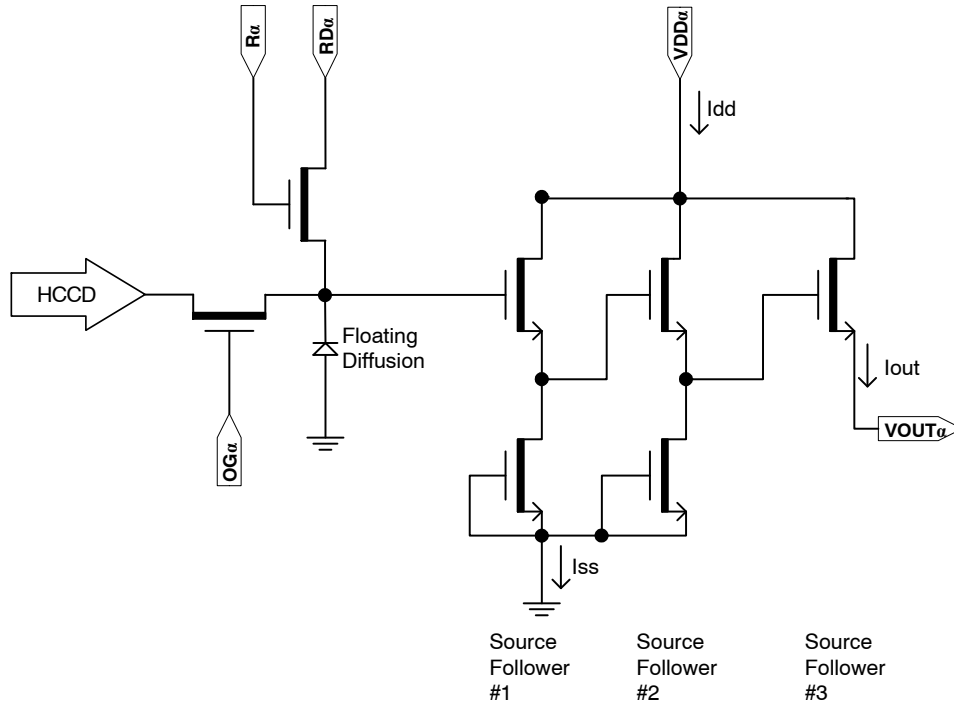

Figure 17. Output Amplifier
- The maximum DC current is for one output. $I_{dd} = I_{out} + I_{ss}$. See Figure 17.